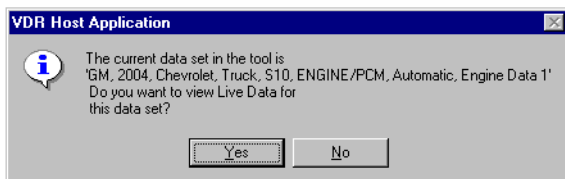

Figure 3.2: Question Message Box
- 2 Verify the connections and click the **OK** button to continue. This displays a question message box (Figure 3.2 on page 28).